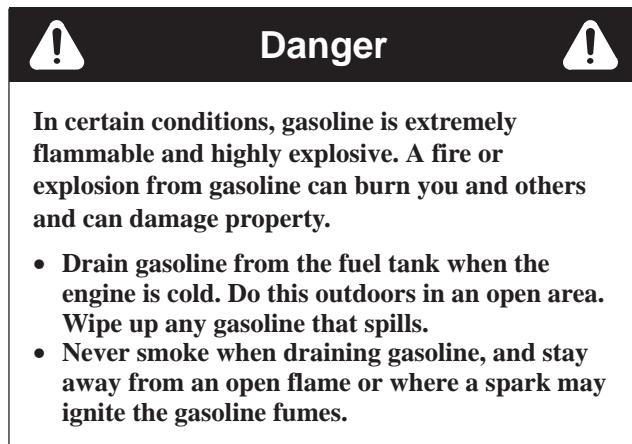

Figure 28
The best time to replace the fuel filter (Fig. 28) is when the fuel tank is empty. Never install a dirty filter if it is removed from the fuel line.
3. Squeeze the ends of the hose clamps together and slide them away from the filter (Fig. 28).